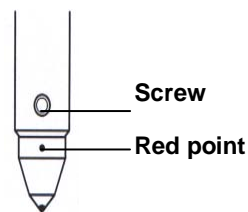

Figure 6-14 Installing an indenter
1. Carefully insert the indenter shank into the installing hole and the red point should face towards you. Refer to Figure 6-14.